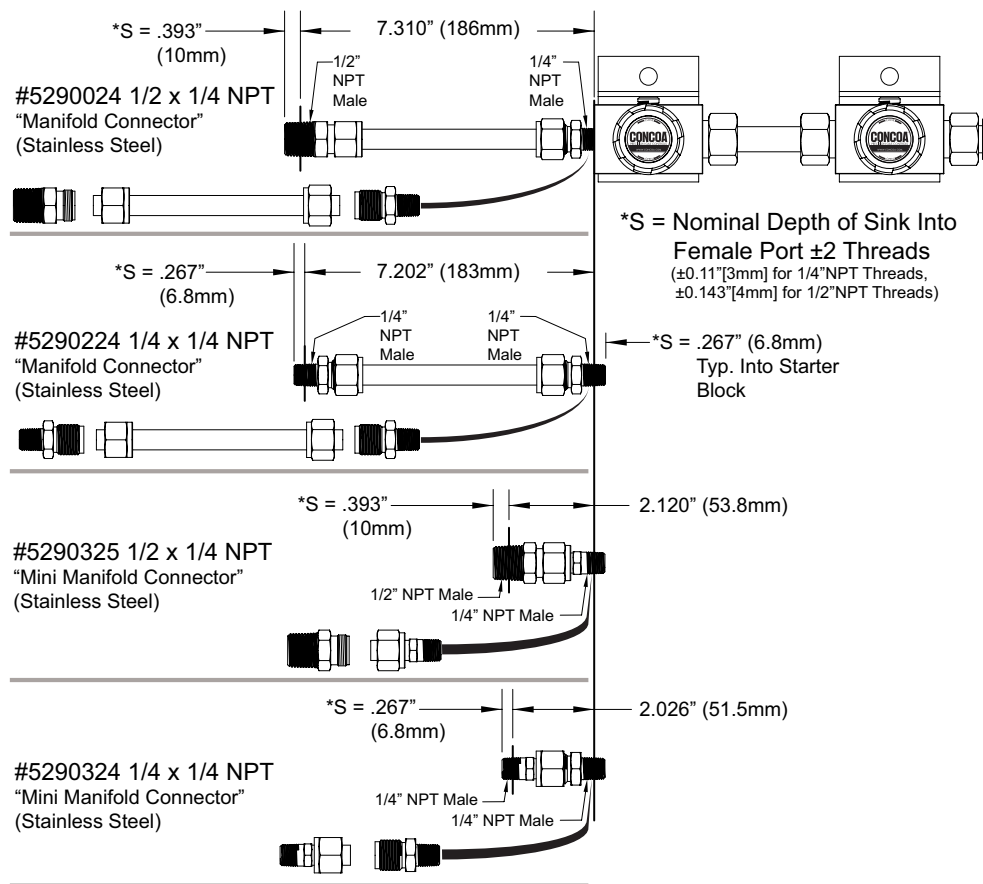

Figure 3. Manifold Connectors
4. The manifold connector (see Figure 3) can be disassembled for ease of installation.